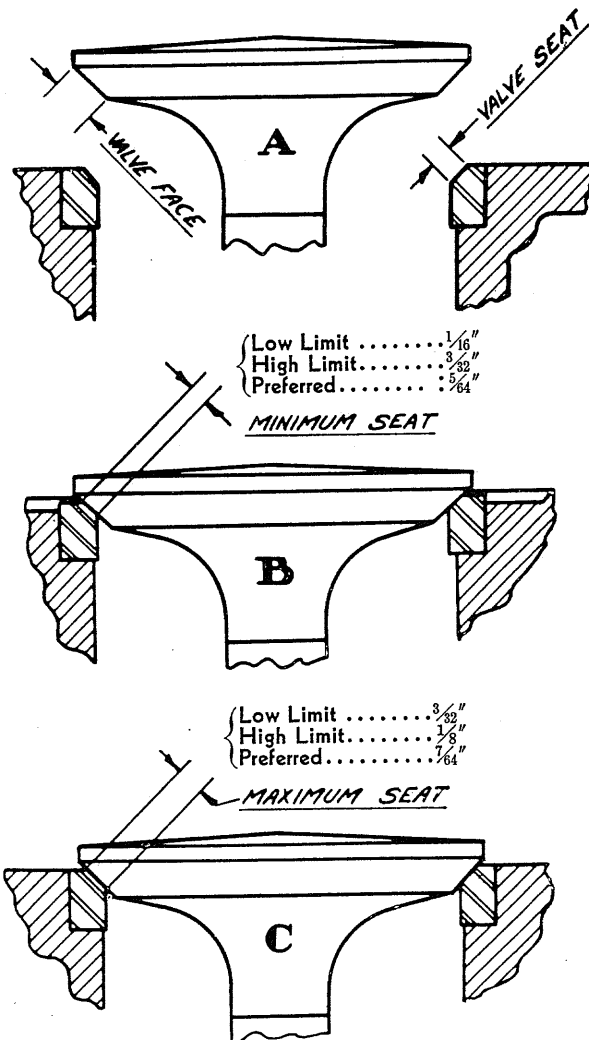

Fig. 10
Sketches (B) and (C) in Figure 10 and the tabulation of the seat widths will provide a condition that will prolong valve life. The sketches are to scale so that the recommended proportion of seat width to valve face width and also the proper location of the valve seat on the valve face can be readily seen. In general, the seats are centrally located or slightly above center.